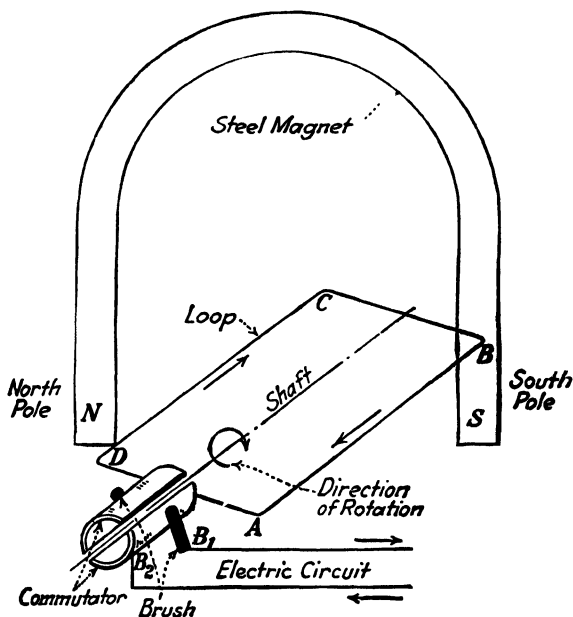

FIG. 1-54. Elementary direct-current generator.
brushes which connect the machine to the electric circuit. The general arrangement is shown in Fig. 1-54.
**Commutation.** From Fig. 1-54, it is clear that the commutator will first connect one side of the loop to one side of the circuit, and then as the shaft revolves it will connect the other end of the loop to the same side of the circuit. If the brushes are correctly set, this change will take place when both sides of the loop are not generating any voltage, that is, when the coil is midway between the poles. This is the point at which the current in the loop changes direction. When A side of the loop is passing the south pole, the voltage is in a given direction and feeds into brush  $B_1$ , and D side of the loop feeds into brush  $B_2$ . But when the loop has revolved to its midway position, the direction of the generated voltage in the loop is about to change, and just at this instant the ends of